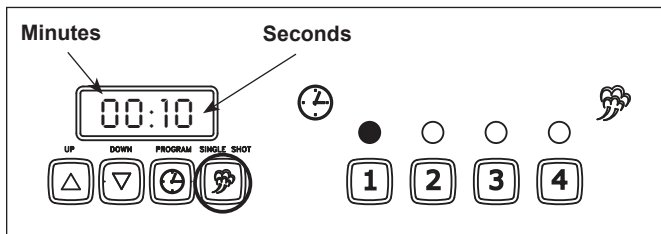

Figure 7. Changing Total Cycle Time
NOTE: During preheating, the display will flash “LOW”. When unit reaches operating temperature, the display shows the factory preprogrammed (default) time in minutes/seconds (Figure 7) and the active channel indicator light will be on.
3. Press the **UP** or **DOWN ARROW** buttons to change the total cycle time in minutes (Figure 7).